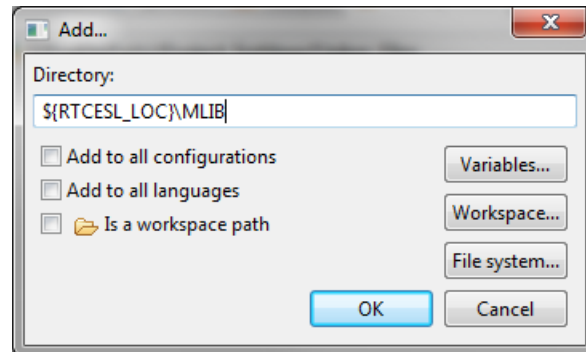

Figure 1-11. Library path inclusion
5. Look for the RTCESL_LOC variable by clicking Variables..., and then finish the path in the box by adding the following (see Figure 1-11): `${RTCESL_LOC}\MLIB`.